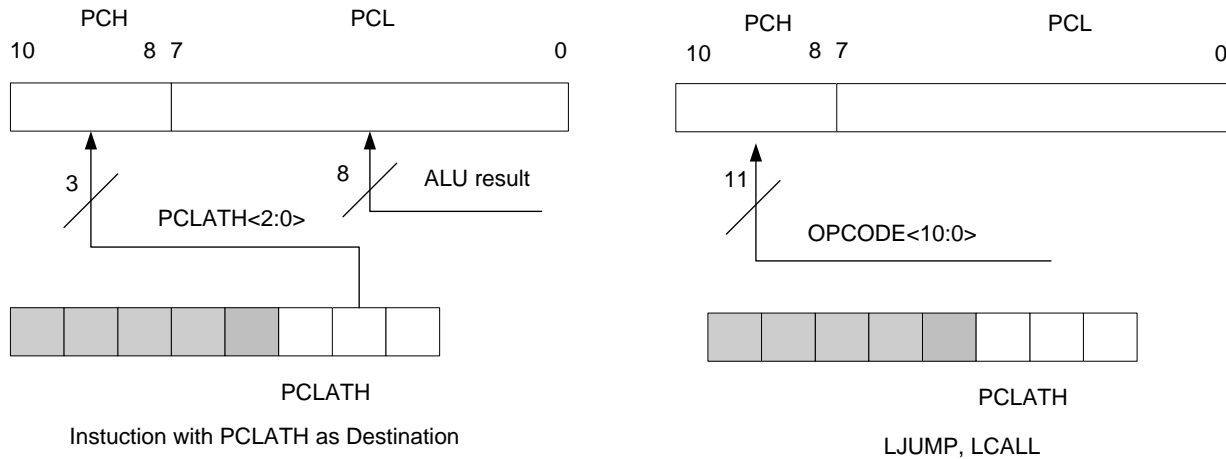

Figure 17-3 Loading of PC in different situations
The Program Counter (PC) is 11 bits wide. The low byte comes from the PCL register, which is a readable and writable register. The high 3 bits PC[10:8] is not directly readable or writable and comes from PCLATH. On any Reset, PC clears. **Figure 17-3** shows the two situations for the loading of the PC.